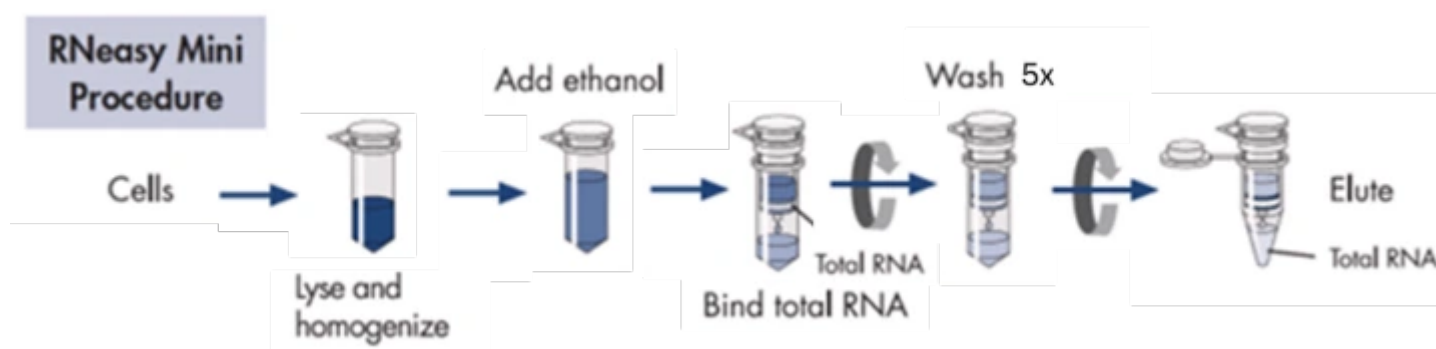

Figure 1: Schematic of the different steps in RNA extraction Method A (adapted from the RNeasy Mini Handbook)
RNA extraction (See Figure 1)
8. Centrifuge samples for 15 minutes 12,000x g at 4°C to separate RNA from rest of lysate. The sample will have 3 layers (see Figure 1): clear aqueous layer = contains RNA, fluffy white interphase layer = cell debris, red organic layer = contains phenol and chloroform